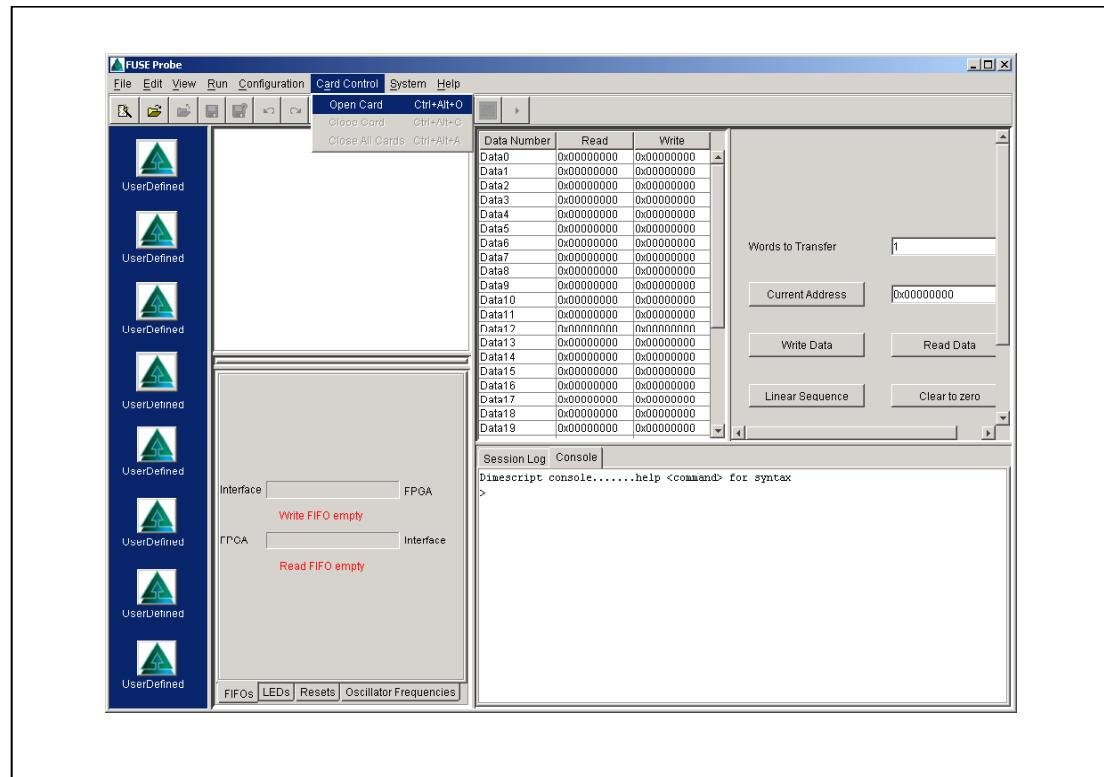

Figure 3: FUSE System Software GUI
2.  When the user interface is loaded there are no cards open. In the FUSE Probe program window shown in Figure 3, select **Card Control\Open card** from the menu at the top of the window.